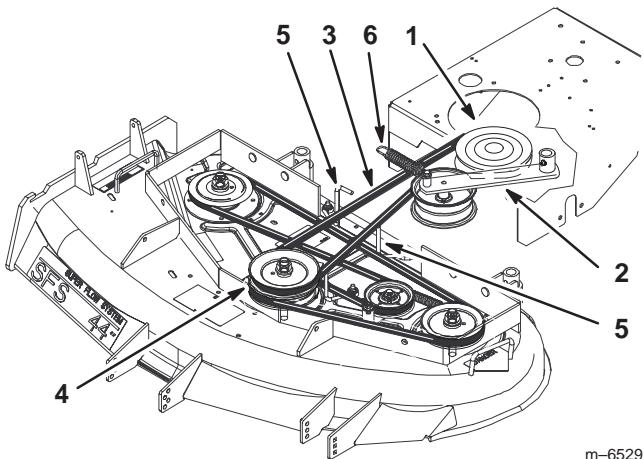

Figure 74
4. Remove the idler spring from idler arm. Remove the drive belt from the PTO engagement pulley and the center spindle pulley (Fig. 74).
5. Remove the worn drive belt (Fig. 74).
6. Install the new drive belt onto the PTO engagement pulley and the top groove of the center spindle pulley (Fig. 74).
7. Install belt onto idler pulley and then install idler spring (Fig. 74).
8. Adjust PTO drive belt guides an 1/8 inch (3 mm) from belt (Fig. 74).